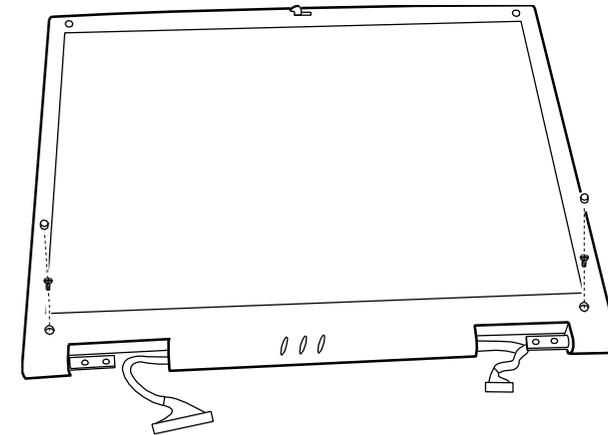

Figure 5-24. Removing the LCD Frame
2. Fit the LCD frame back to the housing. Replace the two screws and two rubber pads. (Refer to Figure 5-24 earlier.)